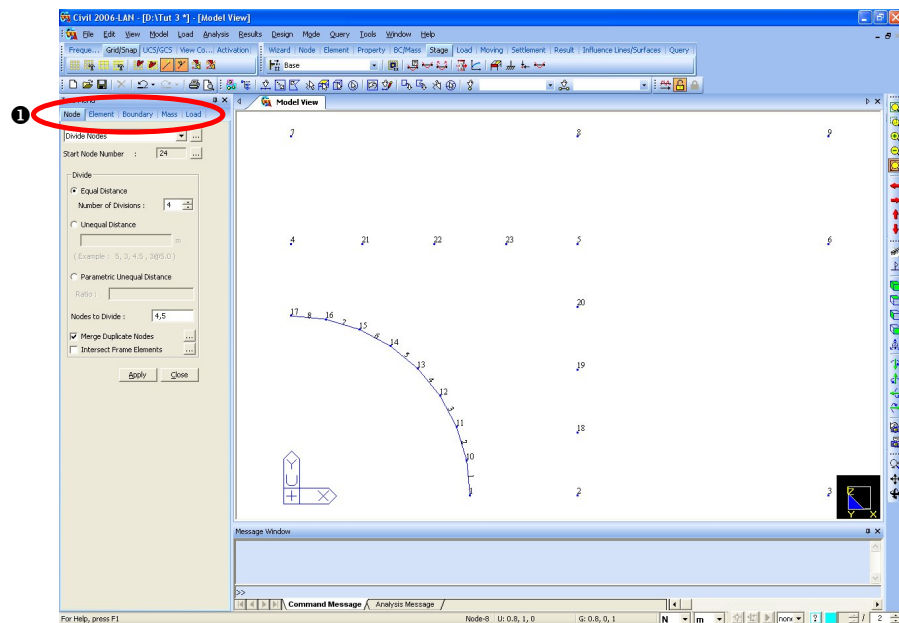

Figure 3.4 Division of nodes to create Plate Elements
2. Select **Node** in the **Model Entity** tab (Fig.3.4—①).